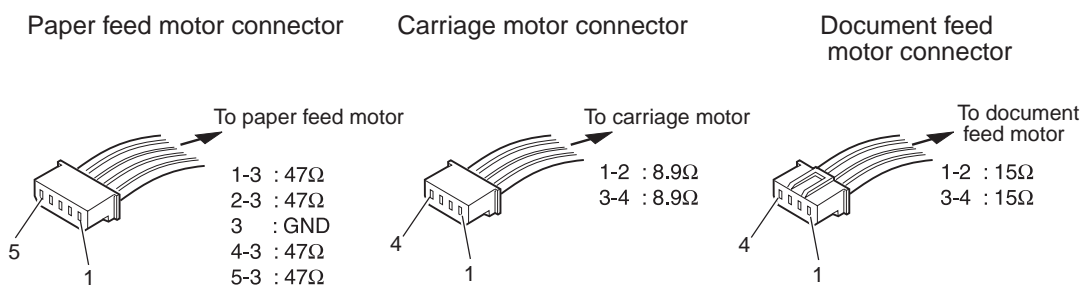

Figure 3-9 Paper Feed Motor/Carriage Motor/Document Feed Motor Connector
- (1) Check the connection from the paper feed motor to the SPCNT board (J4).
- (2) Check the paper feed motor's resistance.  $47\ \Omega$ /1 phase is normal. (Fig. 3-9)
- (3) Replace the paper feed motor.
- (4) Replace the SPCNT board.
- (1) Check the connection from the carriage motor to the SPCNT board (J2).
- (2) Check the carriage motor's resistance.  $8.9\ \Omega$ /1 phase is normal. (Fig. 3-9)
- (3) Replace the carriage motor.
- (1) Check the connection from the document feed motor to the SPCNT board (J10).
- (2) Check the document feed motor's resistance. 15  $\Omega$ /1 phase is normal. (*Fig. 3-9*)
- (3) Replace the document feed motor.